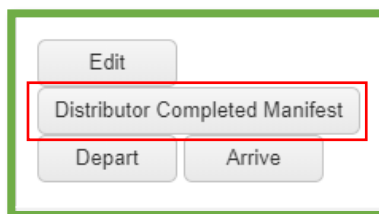

Figure 13: Distributor Completed Manifest Button in Transfers Hub
Users that have access to the *Transfers Hub* in CCTT-Metric will notice a new *Distributor Completed Manifest* button for each active transfer. California requires transporters to use this button to acknowledge that they have verified and received the items on the Manifest prior to departing the shipping facility. Please see **Figure 13** below.
A licensed transporter selected by the shipping licensee to transfer the packages can view the transfer information from the *Transfers Hub*. The *Transfers Hub* includes buttons for transporters to report the progress of each transfer as shown in **Figure 13** above.
- The buttons pictured in **Figure 13** above are applied in chronological order. For example, if the *Arrive* button is clicked prior to the *Depart* button, the *Depart* button will no longer be displayed and no date/time can be recorded for the departure.